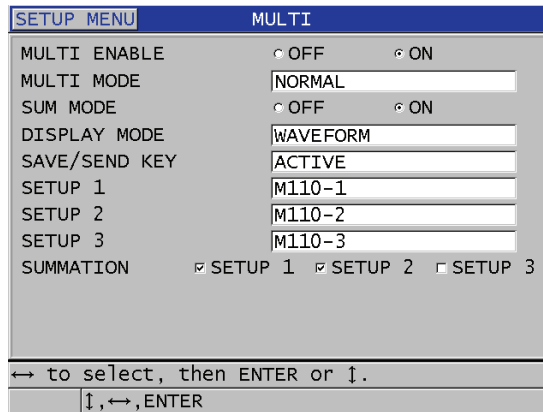

Figure 7-7 Setting multi-measurement parameters in the normal mode
5. In the **MULTI** screen (see Figure 7-7 on page 97):